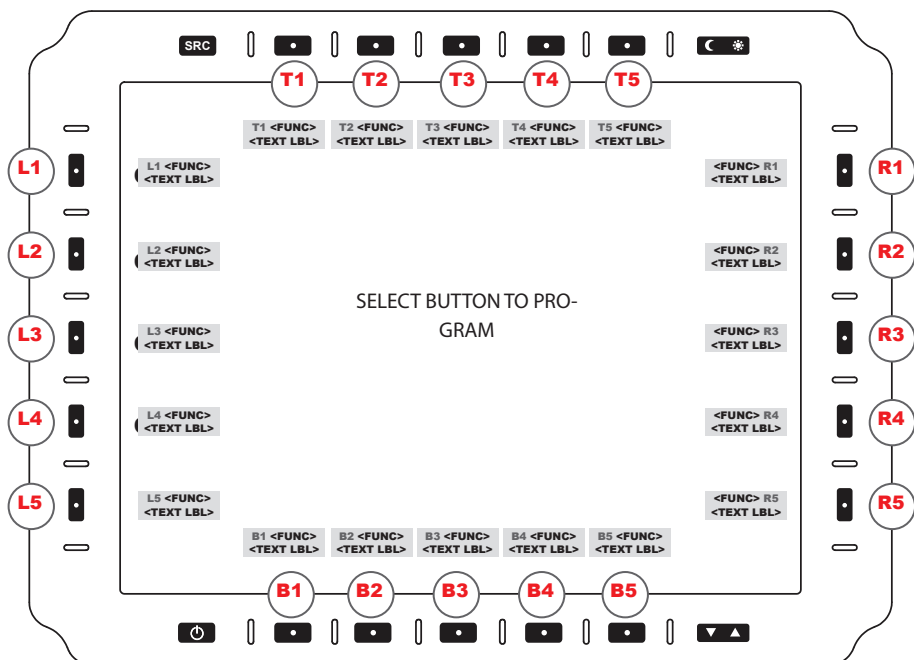

Figure 34. PROGRAMMABLE button ASSIGNMENT MENU
PROGRAM BTN (L2). Initiates Programmable Button (Select Key) Menu (Figure 34).
The twenty (20) bezel softkey buttons are in a layout of five keys on the left (L1-5), right (R1-5), bottom (B1-5) and top, (T1-5) (Figure 34). Identification of the assigned menu function should be visible next to the key selected. Use these keys to select on-screen menu options. The keys are illuminated in Day or Night mode or Off mode. Night luminance is subdued to match selected platform night lighting.
BACK (R5). Returns to Select Programmable Button Select Key Menu, (Figure 34).